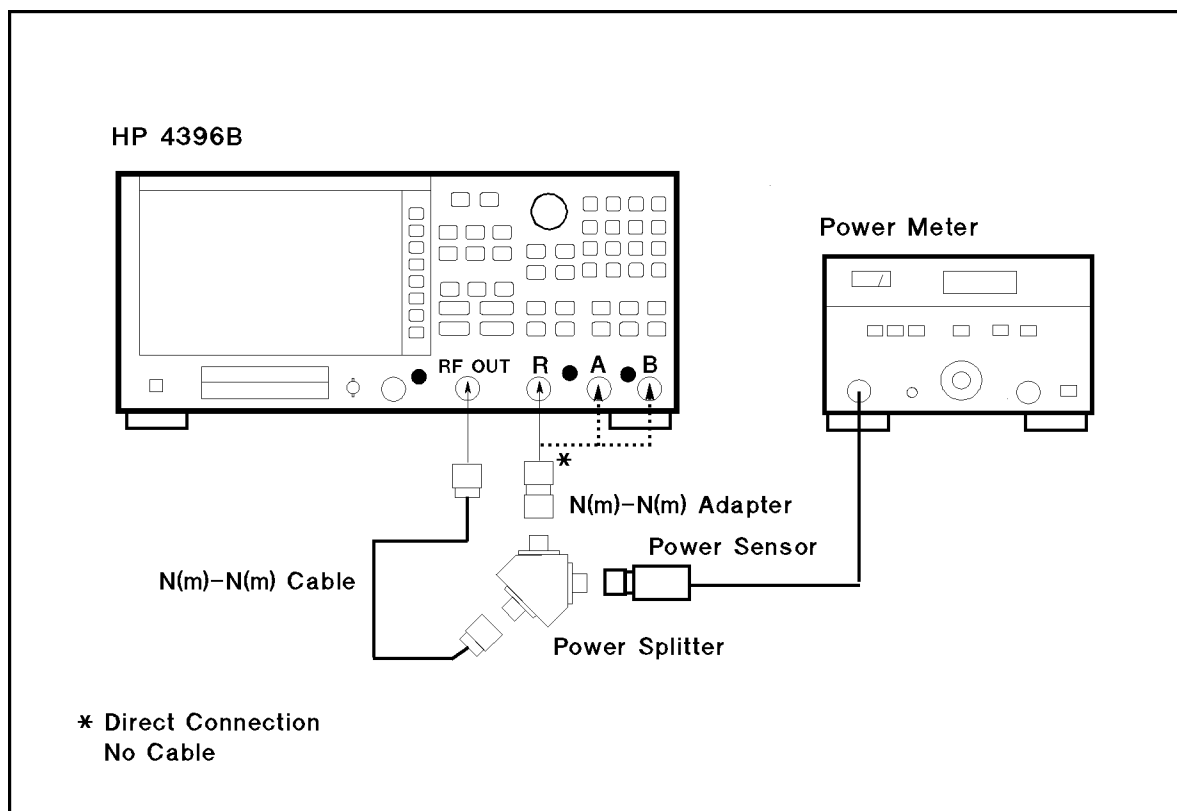

Figure 2-11. Absolute Amplitude Accuracy Test Setup
2. Connect the test equipment as shown in Figure 2-11.